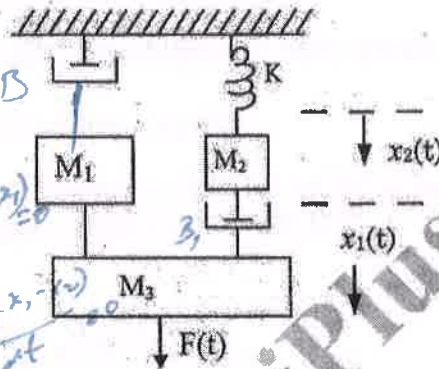

Fig. 2
11. (a) (i) Explain the functional blocks of closed loop feedback control system. (6)
- (ii) Derive the transfer function of system shown in fig. 2. (10)